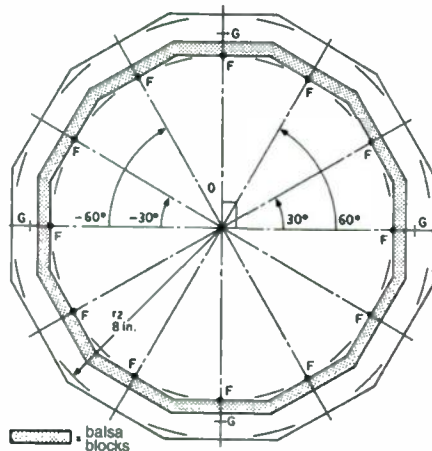
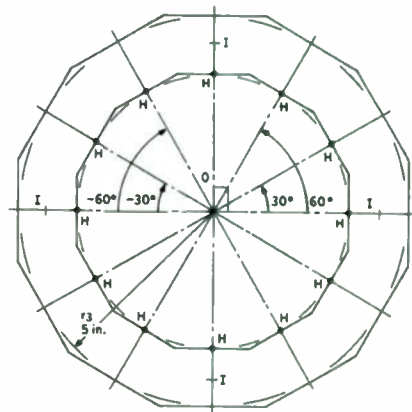
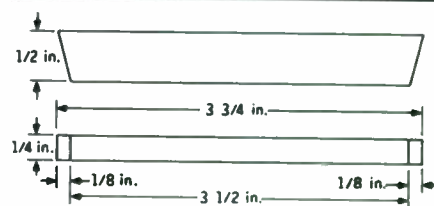

FIGURE 4A: Plan for front grille board, front view.
FIGURE 4B: Plan for rear grille board, front view.
FIGURE 5: Dimensions of balsa blocks for front grille.
boards as follows. Draw circles of radius $r_2 = 8"$ (Fig. 4A) and $r_3 = 5"$ (Fig. 4B) for cutting the exterior edges of the front and rear boards, respectively. Draw radii at 30° intervals from the center O of both boards. At all the points of intersection of the radii and circumferences of both circles, draw perpendiculars to the radii. These intersecting perpendiculars define the exterior edges of the boards.
Cutting the interior edges of the grille boards with a circle cutter involves little work. If you have no such cutter available, then draw additional lines perpendicular to the radii through points F (Fig. 4A) for the front baffle, and points H (Fig. 4B) for the rear baffle. Drill access holes for a sabre-saw blade at all those points F and H, and make straight cuts from hole to hole along the perpendiculars. The relevant points and dimensions for Figs. 4A and 4B are as follows:
- F = access hole for blade of a sabre saw (Fig. 4A); OF = 6 1/2";
- H = access hole for blade of the sabre saw (Fig. 4B); OH = 3 1/2";
You must build up the interior edge of the front grille board (Fig. 4A) so that the grille fabric clears the solder lugs of the speaker-input terminal strip and the rivets attaching the grille to the baffle. You do this with 12 small blocks cut from 1/4" balsa-wood stock (Fig. 5). Apply white glue to the front surface of the grille board, adjacent to the interi-
or edge of the board. Press the sections of balsa wood firmly into position end to end and flush to the interior edge of the grille board as shown in Fig. 4A. Clamping is not required.
Hold the rear grille flush against the back surface of the baffle board while aligning mounting holes B and I of the baffle board (Fig. 3) and the rear grille board (Fig. 4B), respectively. Insert 1/8"-diameter pop rivets into the aligned mounting holes from the front side of the baffle board, and rivet the rear grille to the board. Hold the front grille flush against the front surface of the baffle board while aligning mounting holes D and G of the baffle board (Fig. 3) and the front grille board (Fig. 4A), respectively. From the rear side of the baffle board, insert pop rivets into the aligned mounting holes and rivet the front grille to the baffle board.